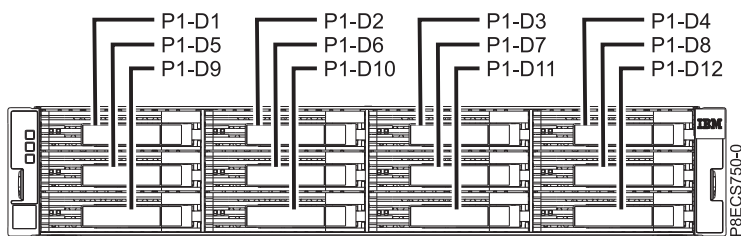
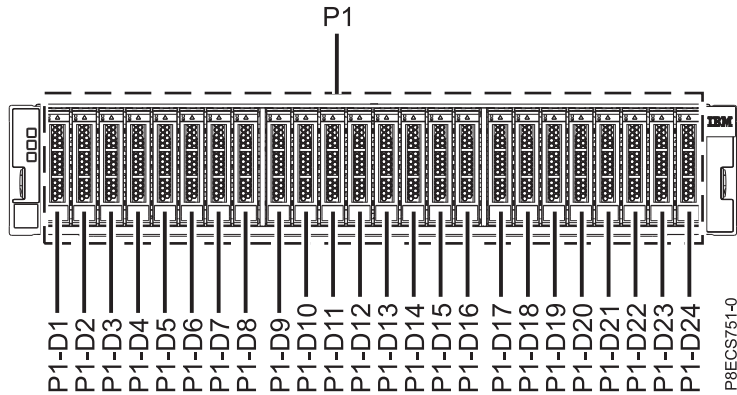
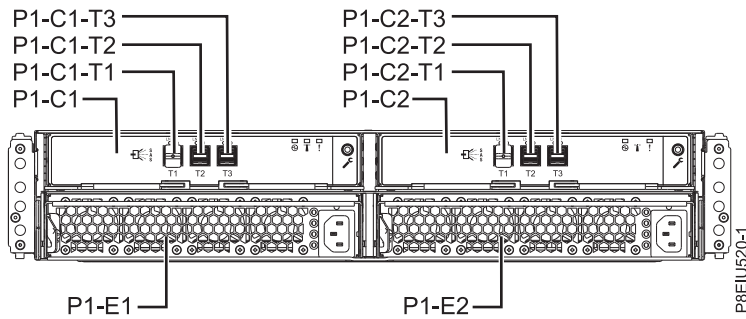

Figure 24. Front view of the ESLL storage enclosure showing the disk drive locations
Figure 25. Front view of the 5147-024 or ESLS storage enclosure showing the drive locations
Figure 26. Rear view of the storage enclosures
2. Identify the part and the enclosure that you want to service. The disk drive and SSD slots are located in the front of the enclosure. Figure 24 shows the front of the ESLL storage enclosure, Figure 25 on page 21 shows the front of the ESLS storage enclosure, Figure 26 on page 21 shows the rear view of the storage enclosures, and Figure 27 on page 21 shows the locations of the service indicators for the storage enclosures.